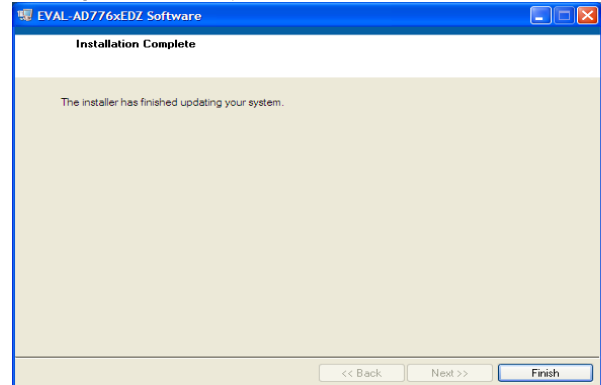

Figure 7. Install Completed
- On completion of the installation, the window as shown in Figure 7 is displayed.